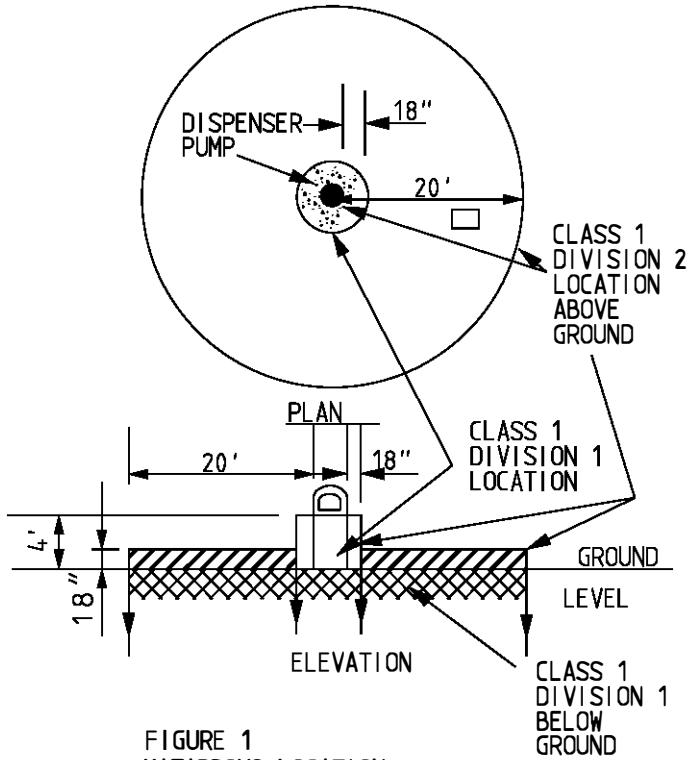

FIGURE 1
A. DISPENSING PUMP - WITHIN 20 FEET HORIZONTALLY FROM ANY DISPENSING PUMP EXTENDING TO A LEVEL OF 18 INCHES ABOVE GRADE. REFER TO FIG. 1 SHT 3.
F. THE SPACE WITHIN THE DISPENSER UP TO 4 FEET FROM ITS BASE IS A CLASS 1 DIVISION 1 LOCATION. THIS CLASSIFICATION SHALL ALSO APPLY TO ANY SPACE BELOW THE DISPENSER THAT MAY CONTAIN ELECTRIC WIRING OR EQUIPMENT. THE SPACE WITHIN 18 INCHES EXTENDING HORIZONTALLY FROM THE DISPENSER UP TO 4 FEET FROM ITS BASE SHALL BE CONSIDERED A CLASS 1 DIVISION 2 LOCATION. REFER TO FIG. 1 SHEET 3.
1. ELECTRICAL EQUIPMENT INSTALLED OVER A HAZARDOUS AREA SHOULD BE LOCATED AT THE MAXIMUM DISTANCE POSSIBLE FROM THE DISPENSING PUMP, TANK FILL PIPE OR TANK VENT PIPE. REFER TO FIGURES 1,2,3 & 4 SHEET 3 FOR HAZARDOUS AREAS.